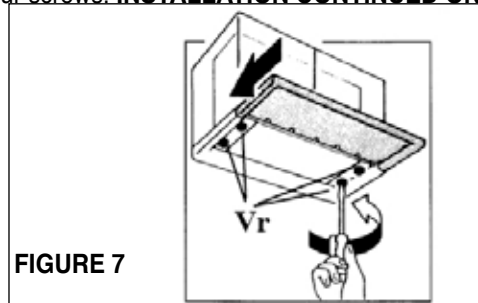

FIGURE 7
7. The rangehood can be adjusted front to back in order to have the front of the rangehood even with the front of the cabinets. Loosen the 4 screws (V_r in **FIGURE 7**) and close the glass visor. Adjust the rangehood body until the front is aligned with the front edge of the cabinet. Once properly adjusted, slide out the glass visor and tighten the four screws. **INSTALLATION CONTINUED ON PAGE 7.**